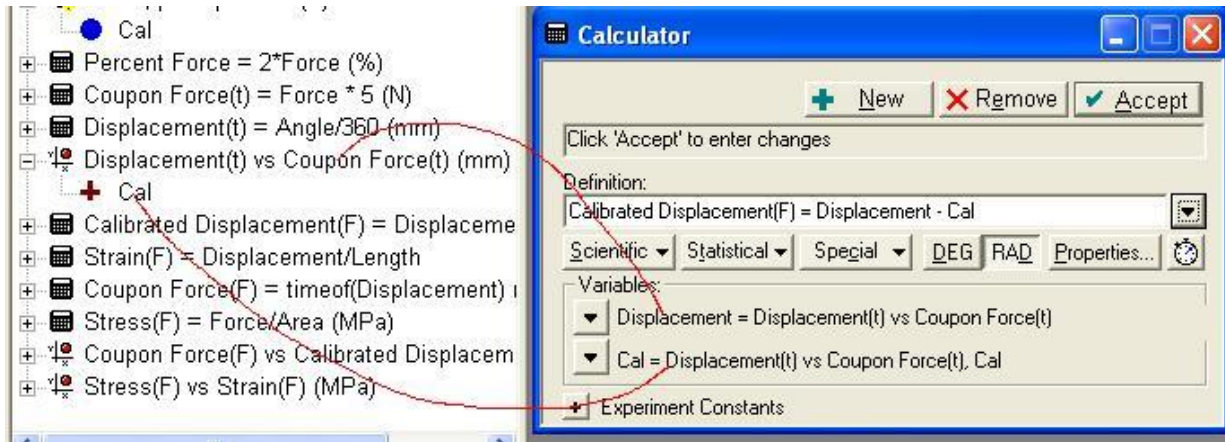

FIG.:5. Define variables in calculator
1. **Prepare the calculation for Calibrated Position.** Click the Calculate button at the top of DataStudio. In the Calculator window, define the variables for the "Calibrated Displacement (F)" calculation:
- Drag "Displacement(t) vs Coupon Force(t) (mm)" to "Please define variable 'Displacement'." (Fig. 5)